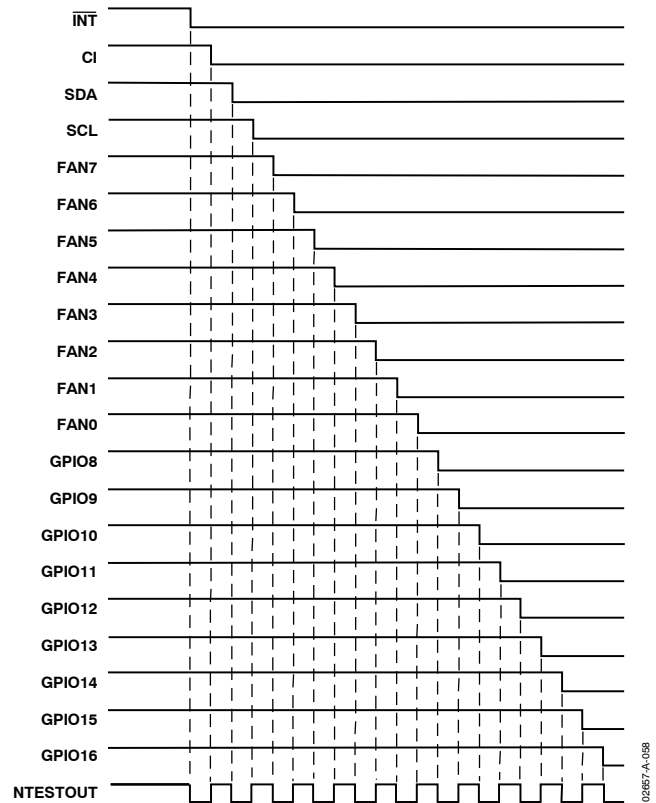

Figure 58. NAND Tree Test Taking Inputs Low in Turn
2. Start with all inputs high and take them low in turn, starting with the input furthest from $\overline{\text{NTEST_OUT}}$ ($\overline{\text{INT}}$) and working down the tree to the input nearest to $\overline{\text{NTEST_OUT}}$ (GPIO16/ $\overline{\text{THERM}}$). This should give a similar output pattern to Figure 58.